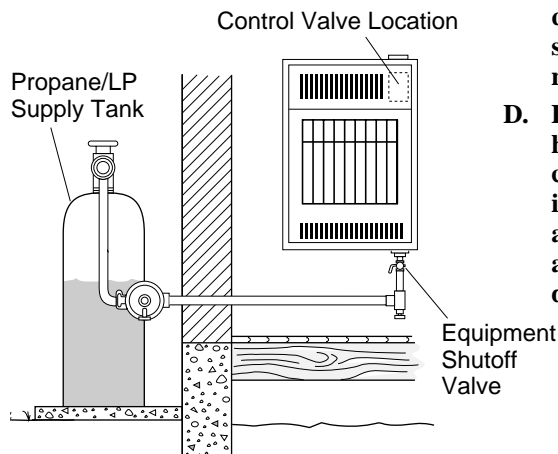

Figure 15 - Checking Gas Joints
3. Check all joints from propane/LP supply tank to equipment shutoff valve (see Figure 15). Apply mixture of liquid soap and water to gas joints. Bubbles forming show a leak.
4. Check all joints from equipment shutoff valve to control valve (see Figure 15). Apply mixture of liquid soap and water to gas joints. Bubbles forming show a leak.